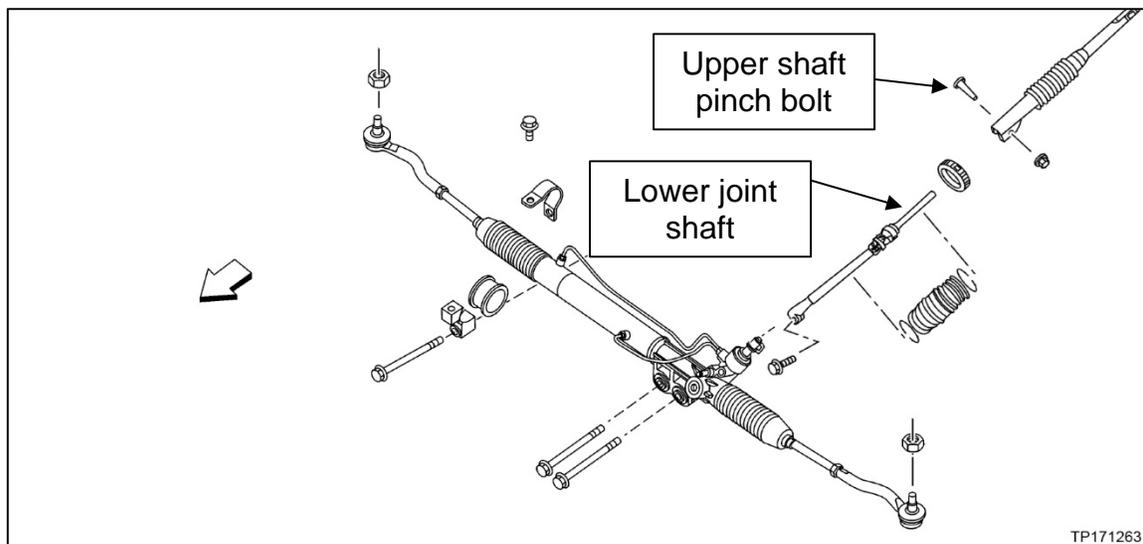

Figure 4
4. Remove steering column upper shaft pinch bolt shown in Figure 4.